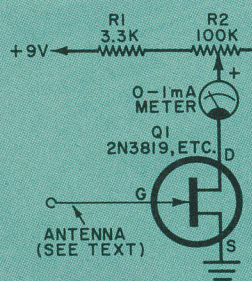

Fig. 3. Schematic of an ultra-simple FET electrometer.
**FET Electrometer.** The electrometer in Fig. 3 is a good circuit to try on a dry winter day. Though it uses only four components, its meter will indicate the presence of static charges up to several feet away. The circuit I tried, for instance, can detect from several feet away the presence of a plastic comb which I charged by stroking through my hair. Even very small movements of the charged comb will cause the meter needle to respond in kind. Potentiometer *R2* allows the circuit to be calibrated.
More sophisticated electrometers can be made with CMOS op amps. But they are more costly, trickier to design, and harder to construct. For a simple indication of the presence of static electricity, the ultra-simple single FET circuit in Fig. 3 may be a better choice.